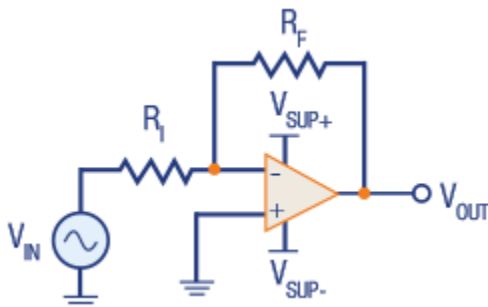
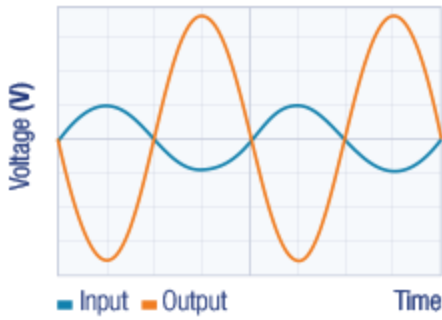

Figure 3a: Inverting Op Amp
Figure 3b: Inverting Amplifier Input and Output Waveforms
A typical application for an operational amplifier is an inverting amplifier, as shown in Figure 3a. An inverting amplifier takes a positive voltage on the input and outputs an amplified yet inverted signal. In the same manner, the amplifier can also make a negative input voltage positive on the output. (See Figure 3b) In addition, amplification can be selected by choosing the value of the input resistor R_I and the feedback resistor R_F . The supply voltage must be chosen to be larger than the input voltage range and the desired output range. The limits of the input common-mode range (VCM) and the output voltage swing to the rails (VO) must also be considered.